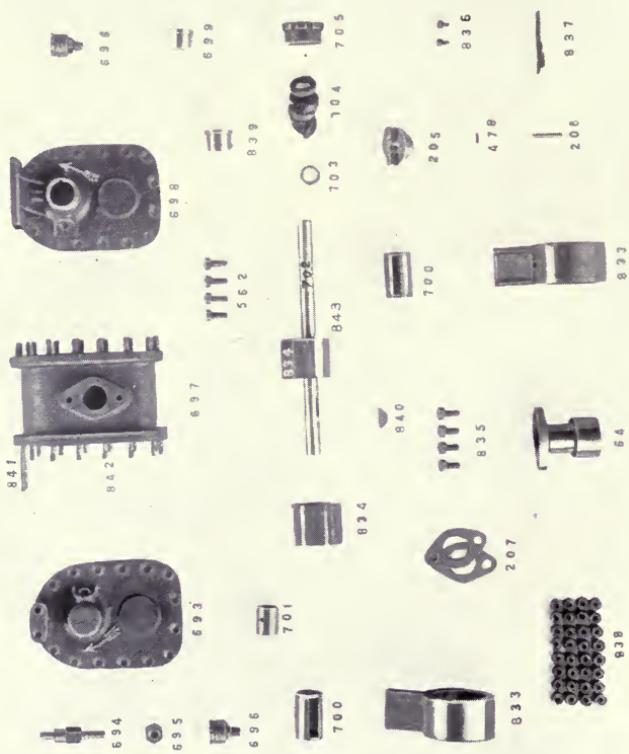

Fig. 37.
**47b. Kinney water pump.** (See Fig. 37.)